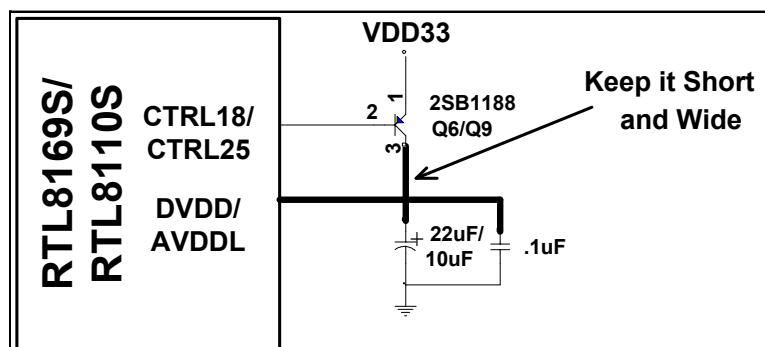

Figure 4. Power Transistors
- If the built-in regulators are used, the traces between each power transistor (Q6 and Q9) and RTL8110S/RTL8169S for supplying 2.5V and 1.8V power (i.e. Q6 to CTRL25 and AVDDL pins, and Q9 to CTRL18, DVDD, and DVDD_A) should be kept as short and wide as possible to provide cleaner digital and analog 2.5V and 1.8V power supplies. Also, keeping the bulk de-coupling capacitors, such as the C88 and C68, C33 and C34, C38 and C39, etc., as close to the power outlet as possible. It is very important and it is strongly recommended to use tantalum capacitors for C88, C33, C38, etc. (Figure 4). Further details on the transistors Q6 and Q9 can be found in section 5. Parts Recommendations, page 8.